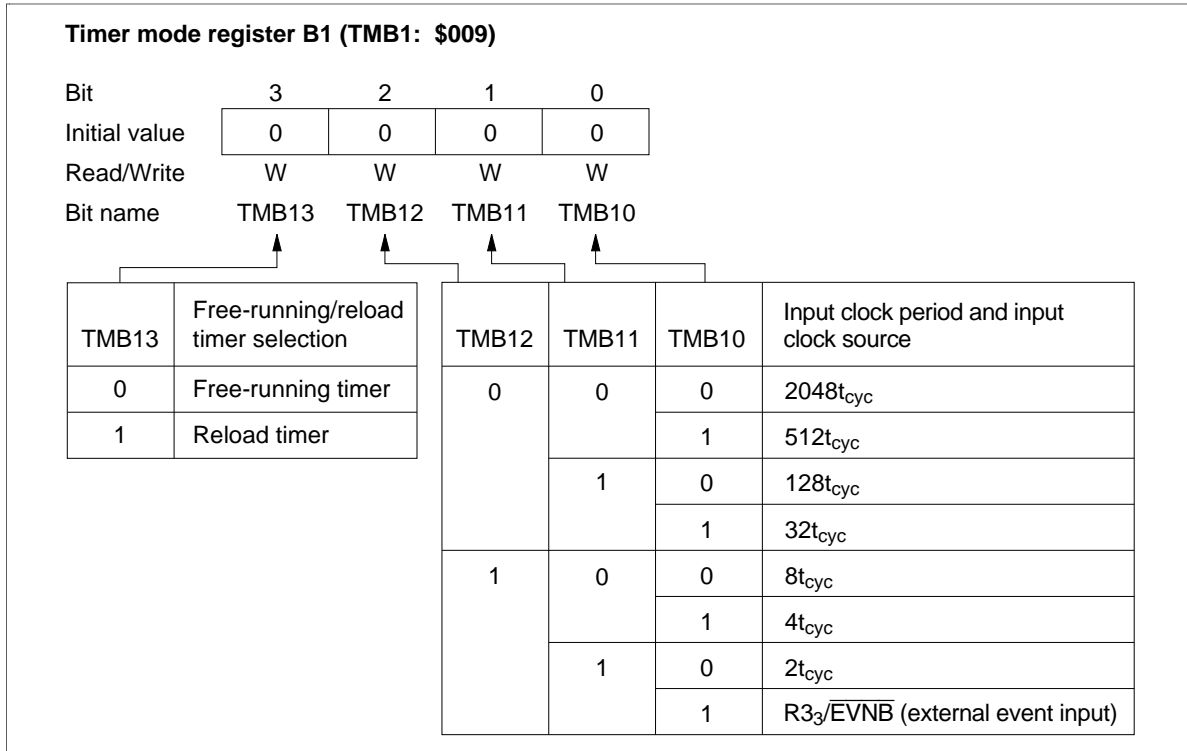

**Figure 44 Timer Output Waveform**
- Toggle output: When toggle output mode is selected, the output level is inverted if a clock is input after timer B has reached \$FF. By using this function and reload timer function, clock signals can be output at a required frequency for a buzzer. Refer to figure 44 for the output waveform.
- PWM output (figure 44): When PWM output mode is selected, timer C provides the variable-duty pulse output function. The output waveform differs depending on the contents of timer mode register C1 (TMC1: \$00D) and timer write register C (TWCL: \$00E, TWCU: \$00F).